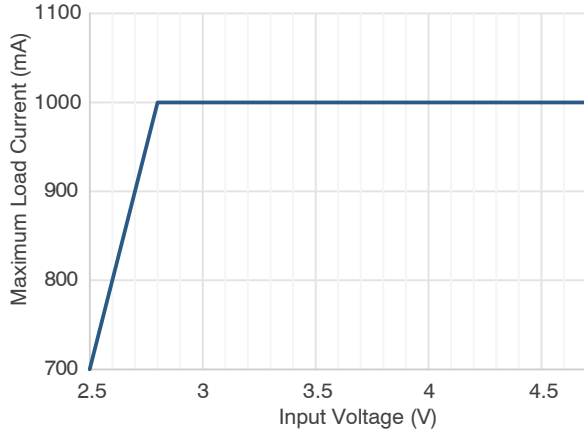

Figure 17. Load Capability vs. Input Voltage
- Refer to Figure 17 in Application Information Section.